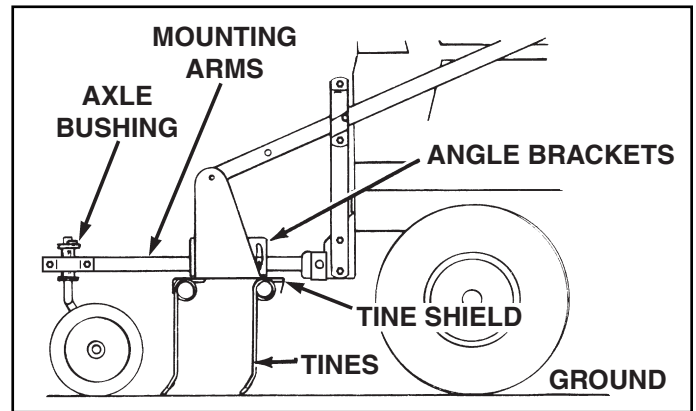

FIGURE 15
23. Adjust tine shield until spring tines come in contact with level surface, keeping front and back tines at the same height. **Tighten** carriage bolts securing mounting arms to angle brackets. See figure 15.